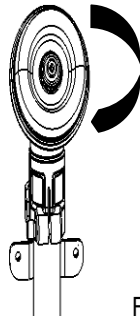

Fig.2
1. Disassemble the nut(clockwise), Dust cover, and support plate from gear case; (Fig. 2&3).